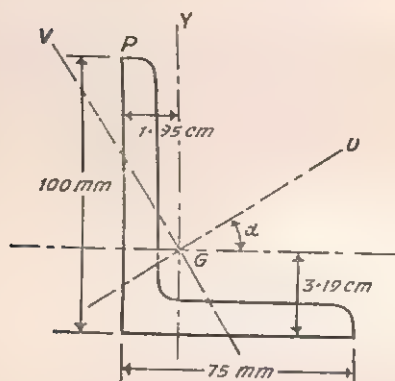

fig. 63
9. Fig. 63 shows the section of an unequal angle iron. It is subjected to a bending moment  $M$ , the plane of which has  $GY$  as trace. Calculate the longitudinal stress at the point  $P$ . The principal axes are  $GU$  and  $GV$ ; the moment of inertia about  $GV$  is  $41.2 \text{ cm}^4$ ; that about  $GU$  is  $196.1 \text{ cm}^4$  and  $\tan \alpha = 0.55$ .